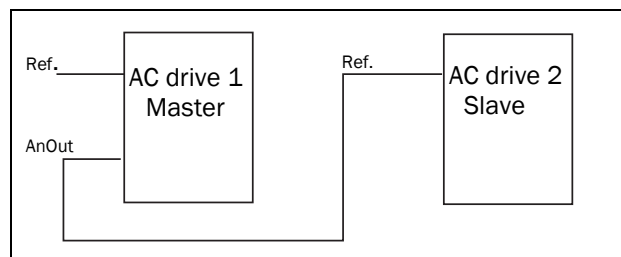

Fig. 148
- a reference signal for the next AC drive in a Master/Slave configuration (see Fig. 148).